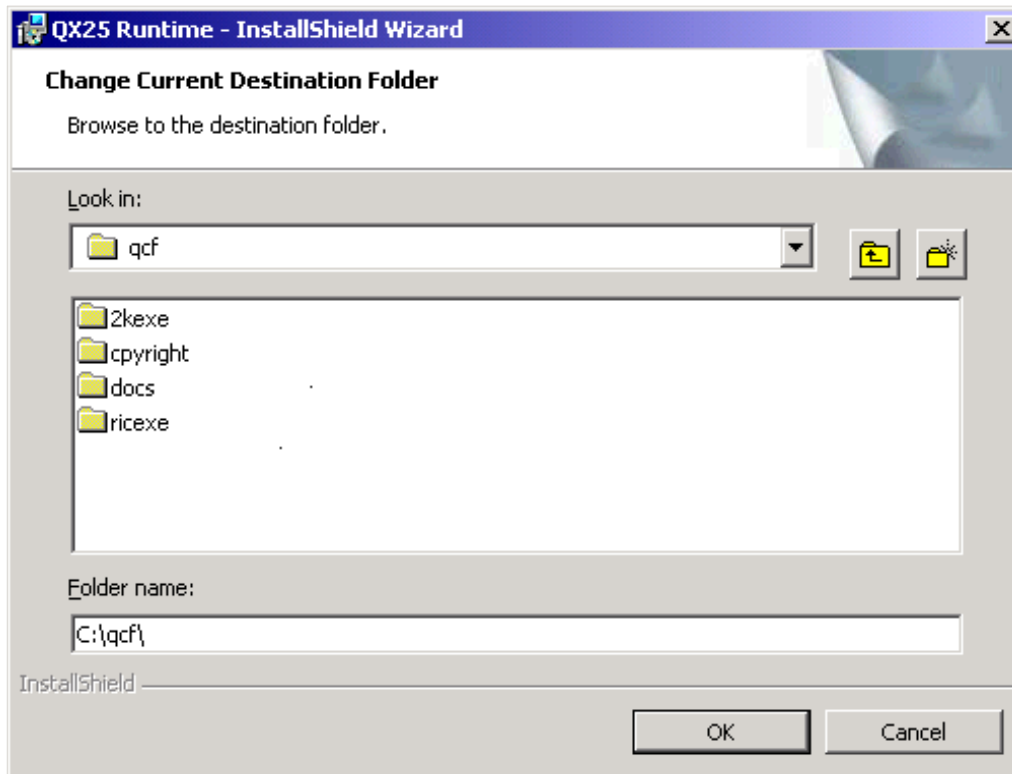

FIGURE 158. Changing destination folder
15. The window should look like Figure 158.